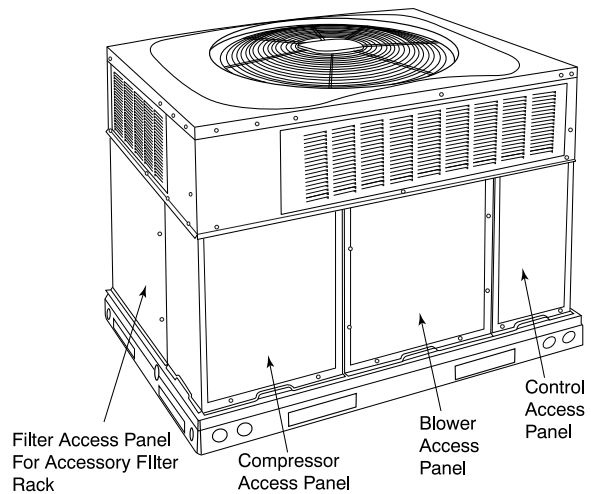
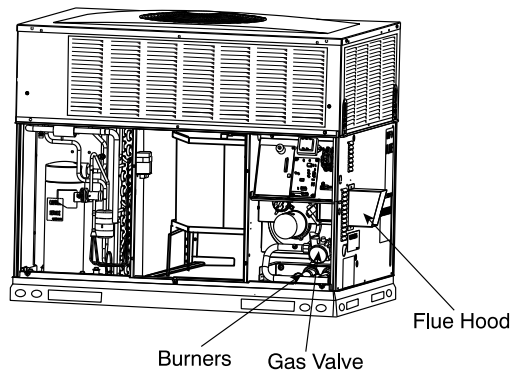

Fig. 2 – Unit Access Panel
Fig. 3 – Gas Heating/Electric Cooling Unit with Access Panel Removed A14490
Refer to Fig. 2 for location of unit front access panel. Refer to Fig. 3 for location of gas valve. Refer to Fig. 4 while proceeding with the following steps.
4. Remove the control access panel with a 5/16-in. nut driver. (See Fig. 2.)
4. Remove the control access panel. (See Fig. 2.)
To replace or inspect filters in accessory filter rack (See Fig. 2):